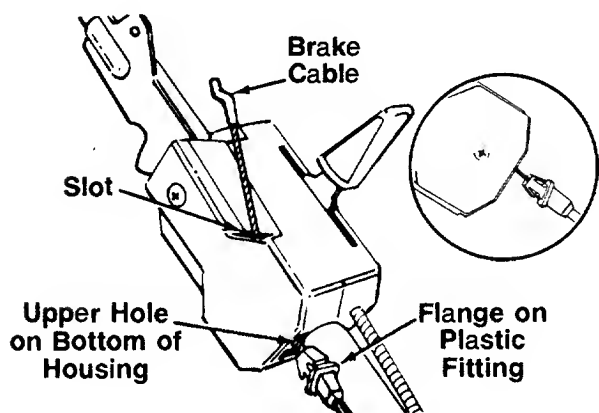

FIGURE 4.
1. The brake cable is attached to the engine, and has a "Z" fitting on the loose end. Route the brake cable below the lower handle. Place end of cable into the upper hole on the bottom of the control housing, and through the slot as shown. The angle of the plastic flange must be positioned downward as shown in figure 4. Be careful not to bend or kink the cable at any time.